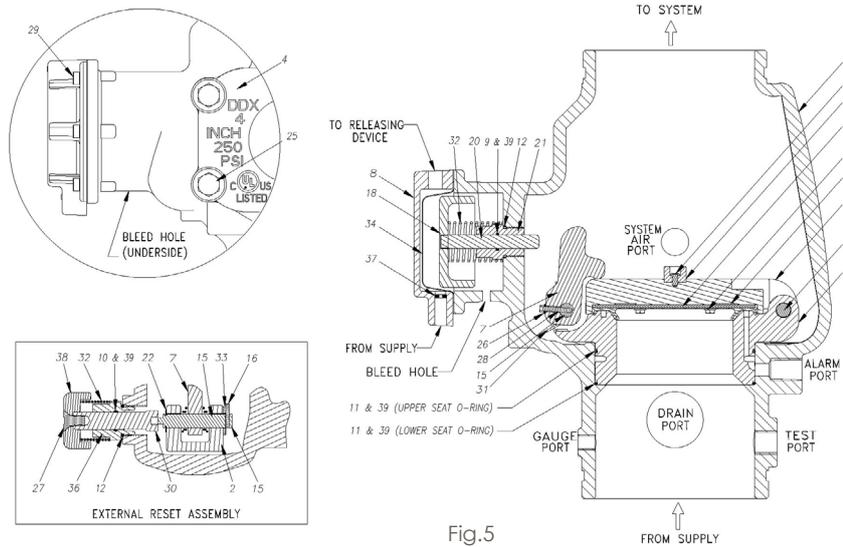

Fig.5
6. With the Model B Manual Emergency Station, valve D (Fig. 6), open, push in and rotate the Deluge Valve's external reset knob (#38 Fig. 5) clockwise until you hear a distinct clicking noise, indicating that the clapper has closed, Note: The reset knob can be rotated only after pressure in the pushrod chamber is reduced to atmospheric conditions (0 psig),
4. Ball drip valve E (Fig. 6) - make sure that valve G (Fig.6) is open, Push in on the plunger to be sure the ball check is off its seat. If no water appears, the Deluge Valve's water seat is tight. Inspect the bleed hole (see Fig. 5) on the underside of the push rod chamber for leakage.